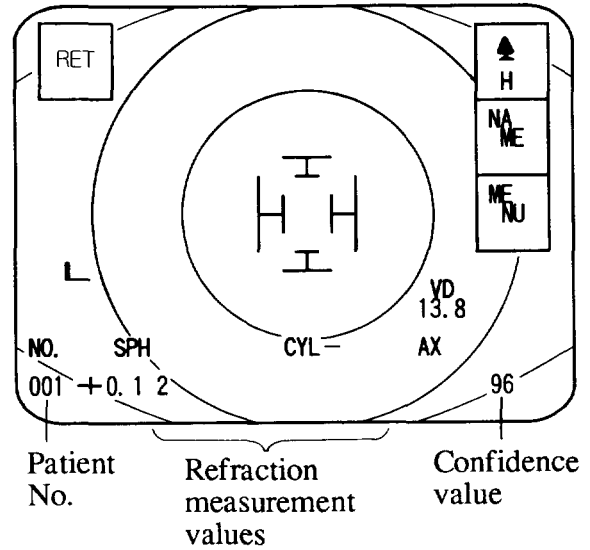

Figure 3-11
- ⑤ Measured values are displayed on the screen (see Figure 3-11).
- ⑥ Take approximately five measurements (or more for patients who move their eyes a lot or when measured values vary over a wide range) for each eye.